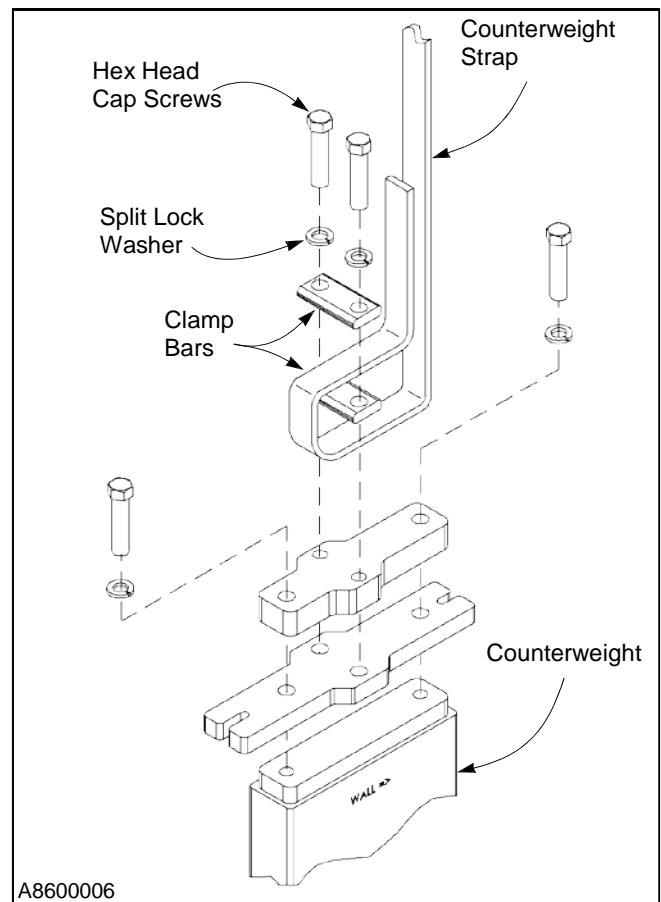

Figure 20
9. With the straps hanging straight, attach them to the counterweights using two $\frac{3}{8}$ -16 UNC x $1\frac{3}{4}$ hex head cap screws, $\frac{3}{8}$ in. split lock washers and clamp bars provided in the small parts carton. Route the straps through the clamp bars as shown in Figure 20.